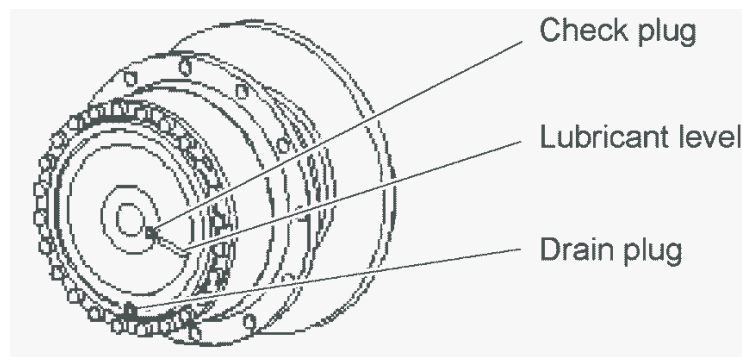

Figure 1-5 Wheel End
- (1) Examine the wheel end oil level as follows:
- (a) Move each wheel until the planet gear cover is at the position in Figure 1-5. The arrow on the planet gear cover points horizontally when the cover is at the correct position. Make sure that the oil is at the correct level.